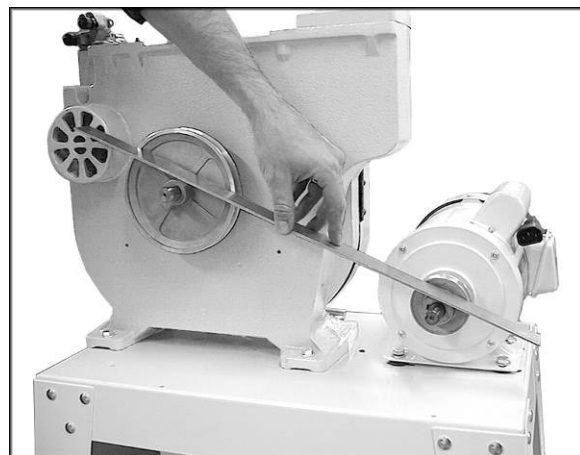
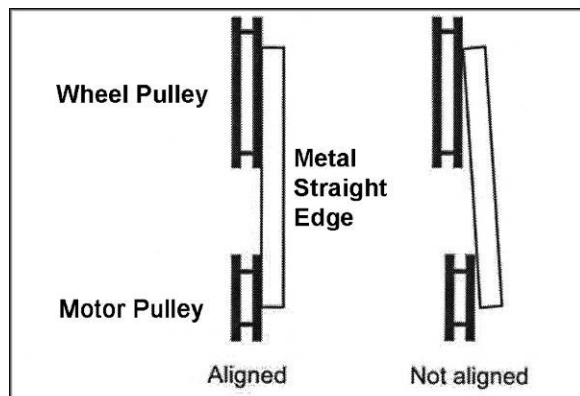

Figure 6
Figure 7
8. Align the motor pulley with the large pulley using a straight edge against the flat sides of the pulleys, as shown in Figure 6. The pulleys should lie in a straight plane (Figure 7). Slide the motor as needed to align the pulleys. If further adjustment is required, loosen the set screw in one or more of the pulleys and move the pulley(s) until they line up. Tighten set screw(s).